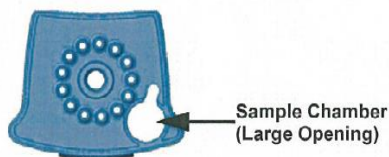

Figure 1. MRSA/SA Blood Culture Assay Cartridge (Top View)
2. Using a clean transfer pipette, transfer the entire contents of the elution reagent vial into the sample chamber of the cartridge. See Figure 1.